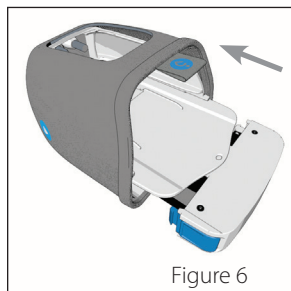

Figure 6
1. Slide the **Battery** with the attached **Shuttle** into the lower bay of the **PowerShell** until the **Shuttle** clicks into place. (Figure 6)